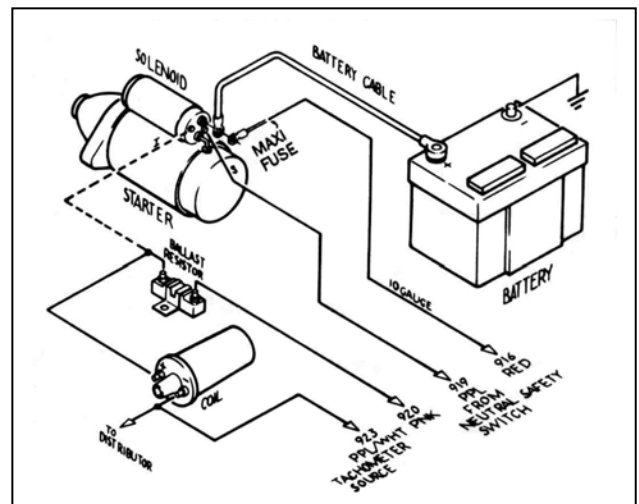

Figure 8-4 GM Ignition (Start-Run) System
- 8.3.6 A 14-gauge wire connected from the Starter Solenoid Ignition (I) terminal to the ignition coil side of the Ballast Resistor is optional. This wire (the dashed line in **Figure 8-4**) serves as a ballast resistor BYPASS during engine starting. However, if the starter solenoid shorts out, which is not unusual, the engine will stop running and will not restart as long as this wire is connected. You may therefore choose to omit it. If you are not using a Ballast Resistor, leave the Starter Solenoid Ignition (I) terminal unconnected and do not install the bypass wire.